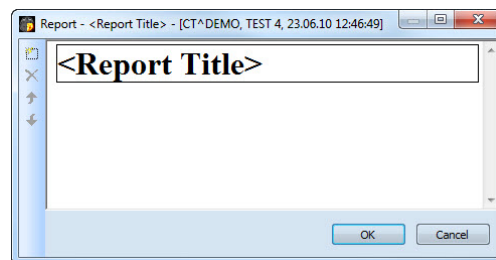

Figure 277 – Report dialog
To create a new template click on the **New** button and enter the name of the report. There will be the dialog **Report** (see Figure 277) displayed afterwards for writing new template.
- Text report - when you select  text type report icon, you can write text report in the **Report** dialog, which will be displayed (see Figure 277).